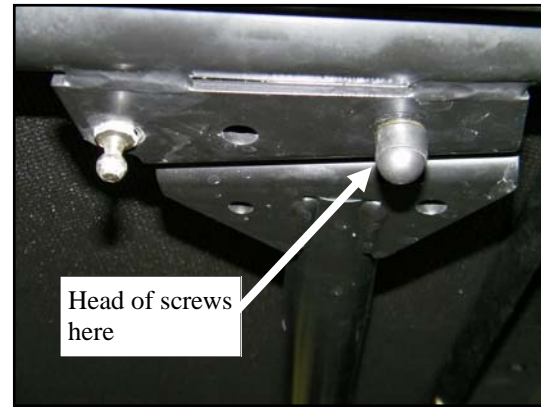

Fig. 15.1 (view of passenger's side)
**15.1** Install nut covers on the interior locknuts that are fastened to the (2) 2-3/4" long screws per fig. 15.1. Repeat for opposite side.